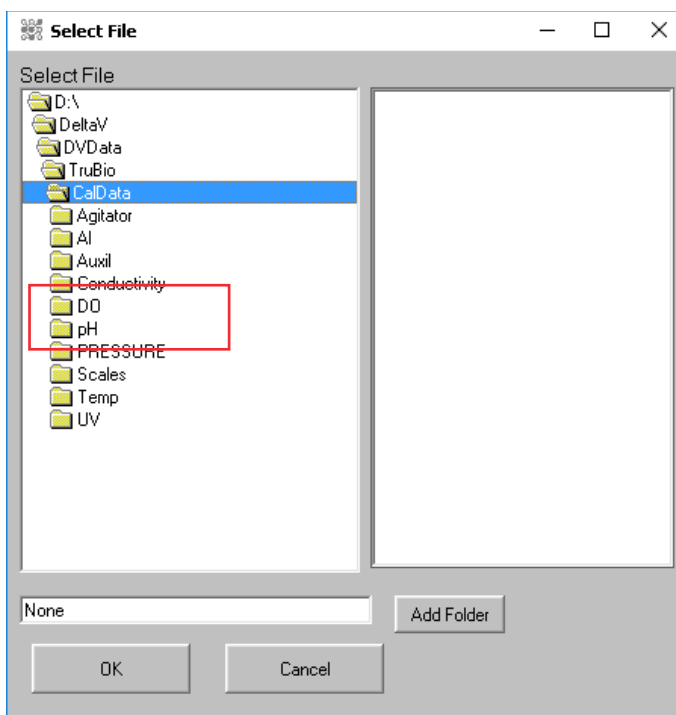

Figure C.13. Calibration files under probe heading.
4. Select either **pH** or **DO** (Figure C.13), and then select the TruFluor option.